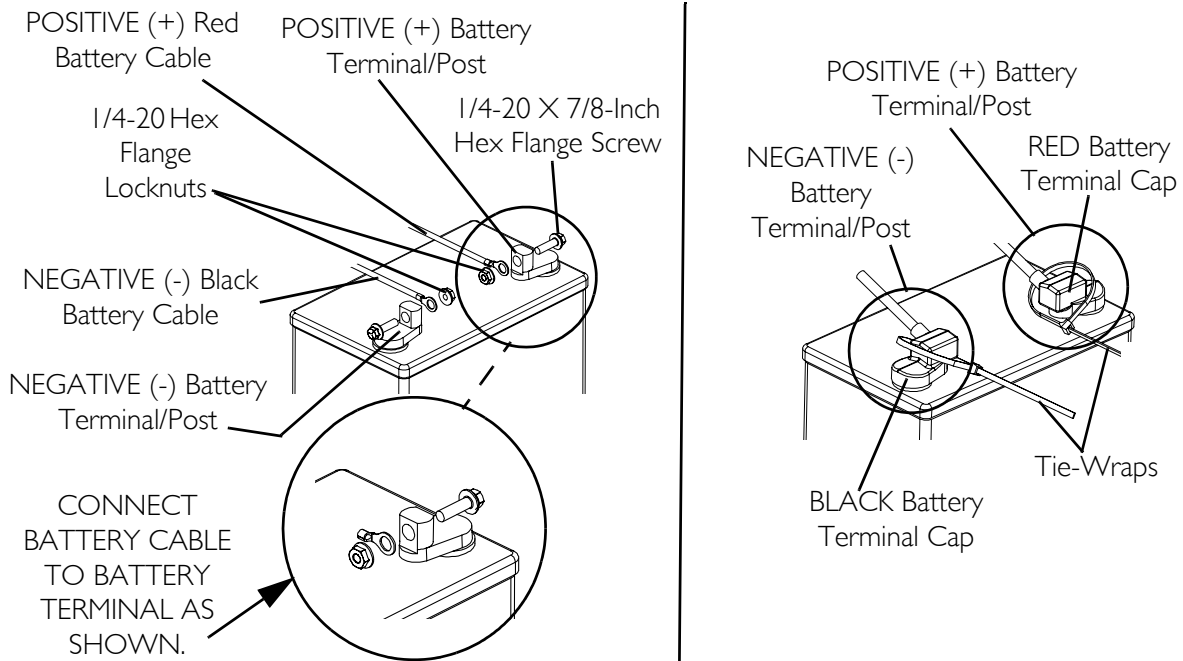

FIGURE 12.6 Connecting Battery Cables - Direct Mount Method
- Dual U1 Batteries - Use direct mount method. Refer to FIGURE 12.5 and FIGURE 12.6.
- Dual Group 22NF Batteries with Mounting Holes in the Terminal(s)/Post(s) - Use direct mount method. Refer to FIGURE 12.5 and FIGURE 12.6.
NOTE: For this procedure, refer to FIGURE 12.5 and FIGURE 12.6.
When connecting the battery cables to the battery(ies), the battery cable(s) MUST be connected to the battery terminal(s)/post(s) as shown in Detail “A” or Detail “B” of FIGURE 12.6 (depending on battery type), otherwise damage to the battery cable may result when installing battery terminal caps.
2. Connect battery cable(s) to battery(ies) terminal(s)/post(s) as shown in Detail “A” or Detail “B” of FIGURE 12.6, depending on battery type:
3. Secure the battery cable(s)/ring terminal(s) to the battery terminal(s)/post(s), BLACK to NEGATIVE (-) and RED to POSITIVE (+), with the provided 1/4-20 x 7/8-inch hex flange screw and hex flange locknut as shown in Detail “A” or Detail “B” of FIGURE 12.6, depending on battery type. Securely tighten.
5. Slide terminal cap(s) down battery cable(s) and onto battery clamps (FIGURE 12.6).
6. Using the 11½-inch long tie-wrap, secure each terminal cap in place (Detail “C” of FIGURE 12.6).